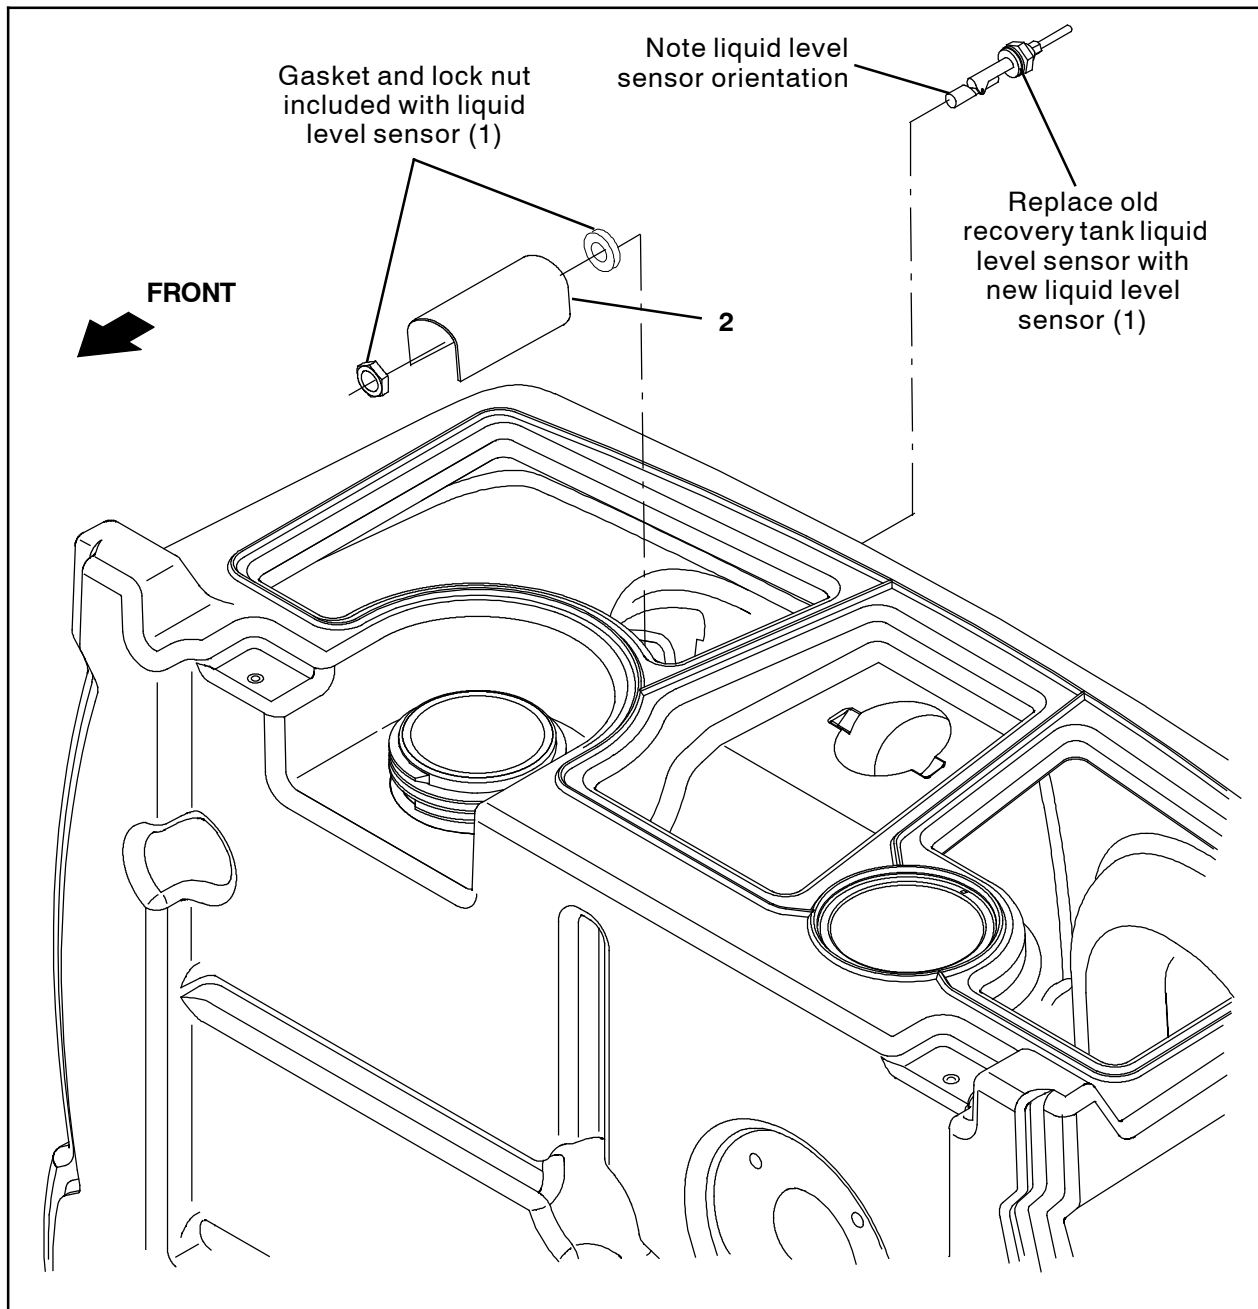

FIG. 10
8. Use the lock nut and gasket to install a new liquid level sensor (1) and float switch protector bracket (2) into the back of the recovery tank where the removed float sensor was previously located. (Fig. 10).
NOTE: Position the liquid level sensor (1) so the narrow end of the float mechanism is oriented as shown in Fig. 10.
9. Connect the wire harness to the liquid level sensor (1) installed in the previous step. (Fig. 10)